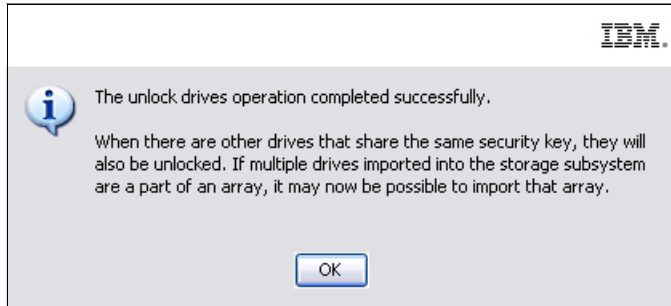

Figure 15-35 FDE drive unlock completed successfully
3. When the correct key file is selected and the pass phrase is entered, all the drives will be successfully unlocked, as shown in Figure 15-35 on page 468.